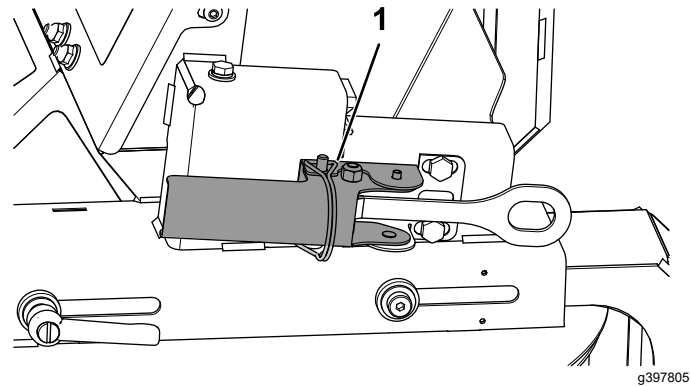

Figure 5
8. Lock the twin spinner into place with the locking clamps on each side (Figure 5). Adjust the locking clamps until the clamps are just firm when closing.